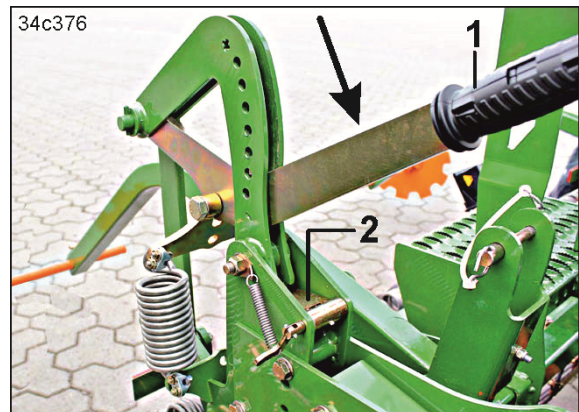

Fig. 147
4. Push the lever (Fig. 147/1) in the direction shown by the arrow until the clamping plate (Fig. 147/2) engages.